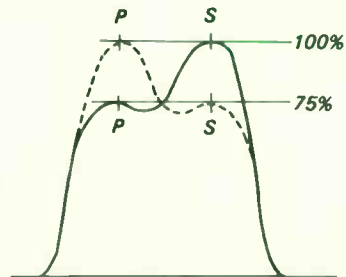

Fig. 6-10. Complete tuner alignment charts.
■ To remove and install the tuner channel strips refer to Fig. 6-9. The complete tuner alignment procedure is shown in steps one, two, and three of Fig. 6-10.